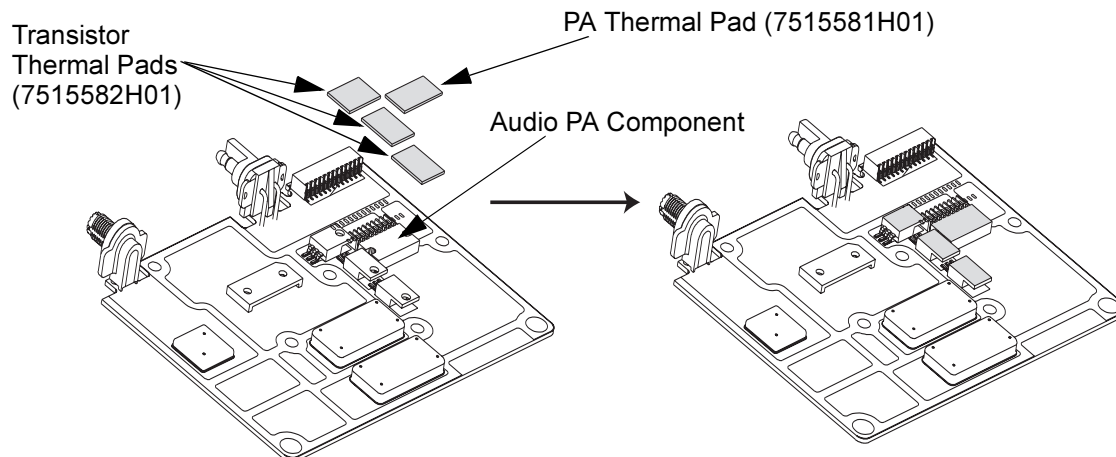

Figure 5-22. Placing Thermal Pads on PA and Transistor Components
3. Once the surface is clean and dry, remove each new pad from the shipping liner, and place in the proper location on top of each transistor component and the audio PA with the white side down (see Figure 5-22).